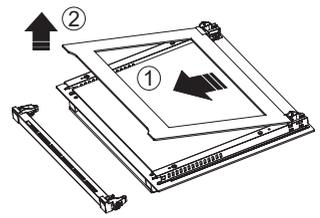

Figure 119
1. Press the plastic latches on the left and right side as shown in figure 137 and lift the profile by pulling it towards you as shown in figure 138. Glass is free after the profile is removed as shown in Fig. 119. Carefully pull the glass that has become free toward you. If necessary, the central glass can be removed in the same way. The outer glass is fixed to the oven door profile. You may easily clean the glasses after they have been separated. Once the cleaning and maintenance is complete, you may replace the glasses and the profile by performing the removal procedure in reverse. Make sure that the glass is inserted in the correct direction and that the profile fits properly.